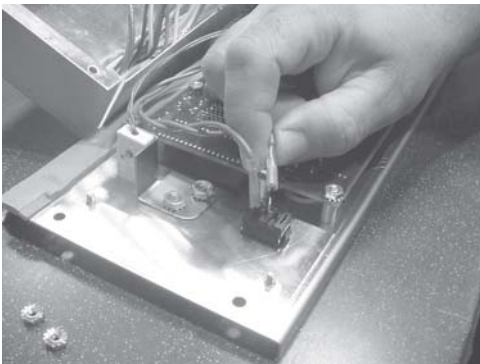

Figure 3-11
4. Pull wires from switch and check across the 2 terminals for continuity. Figure 3-11. With switch in ON position, the circuit should be closed. In the OFF position the circuit should be open. If the switch is defective, continue with step 5.